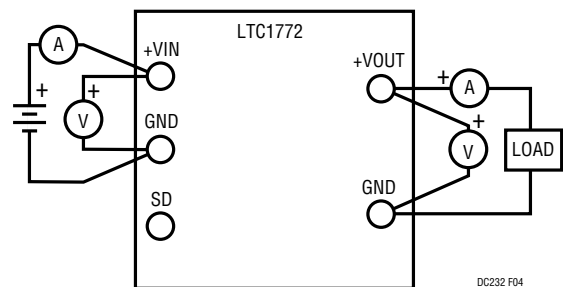

Figure 4. Correct Measurement Setup
2. Connect the load between the  $V_{OUT}$  and GND terminals. Refer to Figure 4 for proper measurement equipment setup.
When measuring voltage regulation, all measurements must be taken at the point of regulation. This point is where the LTC1772 control loop looks for the information to keep the output voltage constant. This information appears between Pin 3 and Pin 2 of the LTC1772. For output voltages above 0.8V, the voltage at Pin 3 can be adjusted by the resistor divider network. These points correspond to the output terminals of the demonstration board. Test leads should be attached to these terminals and the load should be attached as close to these terminals as possible. This applies to line regulation (input-to-output voltage regulation) as well as load regulation tests. In performing line regulation tests, always look at the input voltage across the input terminals. Refer to Figure 4 for proper monitoring equipment configuration.